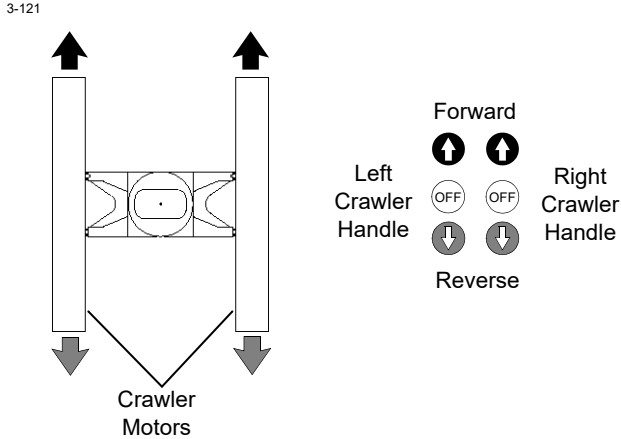

FIGURE 3-22
7. To TRAVEL STRAIGHT (Figure 3-22), move both crawler handles the same amount in desired direction from off.